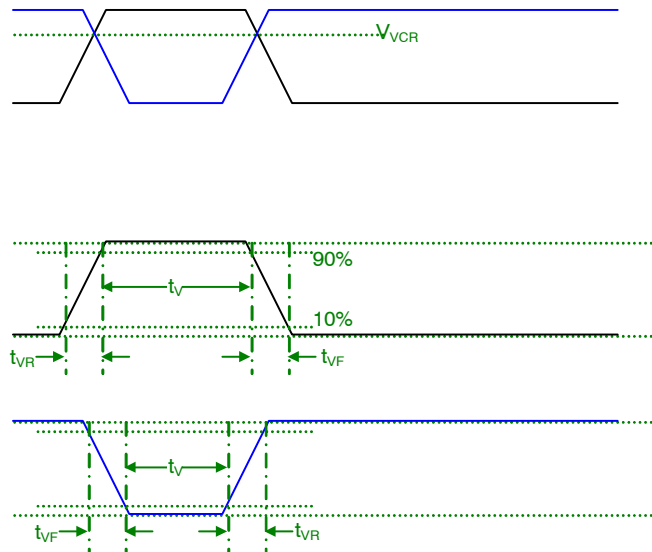

Figure 25. VCCD Clock Rise Time, Fall Time and Edge Alignment
1. Refer to Figure 25: VCCD Clock Rise Time, Fall Time and Edge Alignment